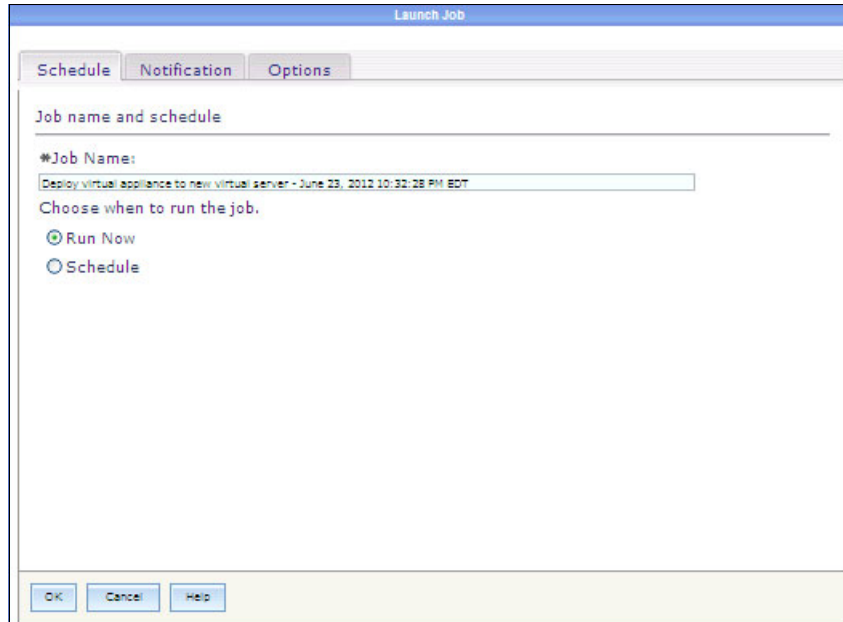

Figure 9-136 Run job
13. Click **OK** to start the creation of your virtual server workload member as shown in Figure 9-136.